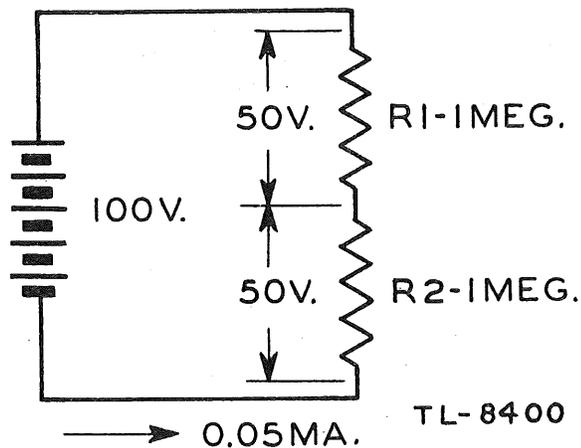
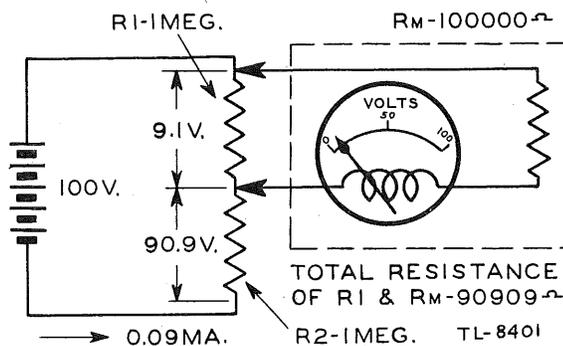

Figure 3. High-resistance series circuit.
Figure 4. Circuit shown in figure 3 showing effect of voltmeter.
(1) An examination of the schematic diagrams of the components of Radio Set SCR-268-(*) will show that d-c operating potentials are applied to the vacuum-tube elements through resistances varying from several ohms to as high as 1 megohm. When one of the d-c voltmeters is connected across these resistances, the internal resistance of the voltmeter becomes a shunt path for the current normally flowing through the resistance and developing the voltage across that same resistance. This shunting effect is known as *loading*. Loading causes a voltmeter reading lower than the true value existing across the resistance, when no supplementary apparatus (such as the voltmeter) is connected across that resistance. The same is true when voltage measurement is made between any two points of a circuit containing such a resistance.
(2) The error which enters into the reading in high-resistance circuits, where the meter resistance is low compared to the resistance of the circuit being tested, is obvious in the following example. Suppose that two 1-megohm resistors are placed in series across a 100-volt battery (fig. 3). According to Ohm's law, a current of 0.05 milliampere will flow through each resistor, and a voltage drop of 50 volts will occur across each resistor. In attempting to measure this 50-volt drop with a 1,000-ohm-per-volt voltmeter using the 100-volt range, the comparatively low 100,000-ohm meter resistance will be in parallel with the 1-megohm circuit resistor (fig. 4). The value of the parallel combination is 90,909 ohms, or less than one tenth of the original 1-megohm resistor. The total resistance across the battery is now 1,090,909 ohms, and a current of about 0.09 milliampere will flow. This will cause a voltage drop of 90.9 volts across the remaining 1-megohm resistor, and a voltage drop of 9.1 volts across the combination of the meter and 1-megohm resistor under test. The voltmeter will indicate 9.1 volts, which is an error of 82 percent, much too great to be tolerated in repair work. It is now evident that, for an accurate voltage reading across a high-resistance circuit, the resistance of the meter must be considerably higher than the resistance of the circuit.
(3) The resistance of the meter circuit may be changed only by changing the value of the multiplier resistors. This is accomplished by the range